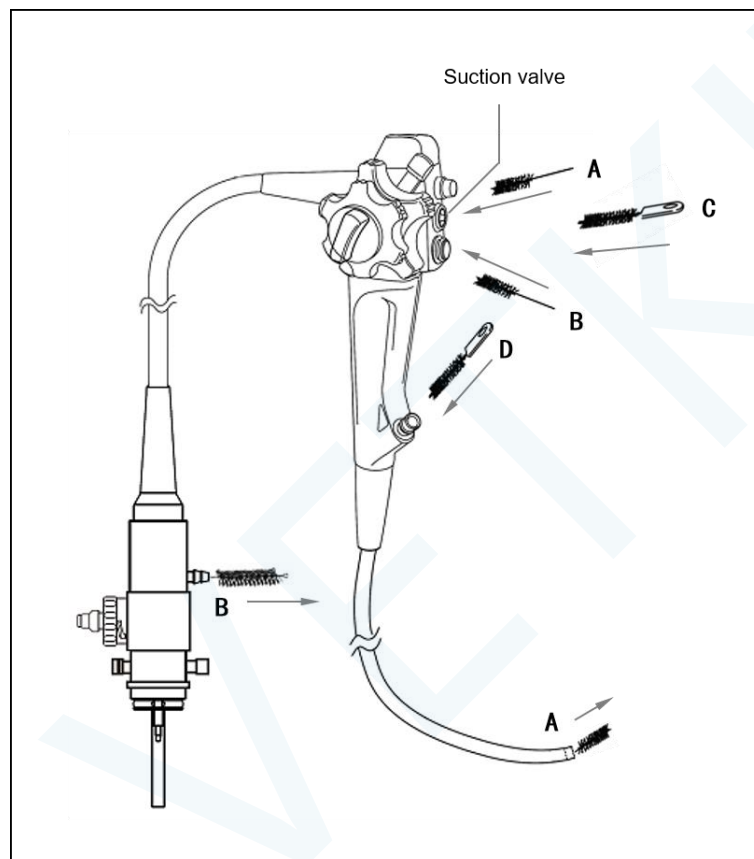

Figure 7.12
During endoscope soaking, scrub the instruments and suction channel, suction connector, and instrument channel opening as per the following procedure (Figure 7.12).
3. Insert the channel cleaning brush into the opening of the suction connector side wall at an angle of 45°, as shown in A in Figure 7.12. Gently tap and insert the cleaning brush from the insertion section until the brush head protrude from the distal tip of the endoscope.
2. Insert the channel cleaning brush straight into the opening of the suction connector as shown in B of Figure 7.12. Gently tap, insert the cleaning brush through the universal cable until the brush head protrude from the suction connector of the light guide connector.
1. As shown in C in Figure 7.12, insert the channel opening cleaning brush into the instrument channel opening until the brush handle touches the channel opening.
1. As shown in D in Figure 7.12, insert the channel opening cleaning brush into the instrument channel opening until the brush handle touches the channel opening.